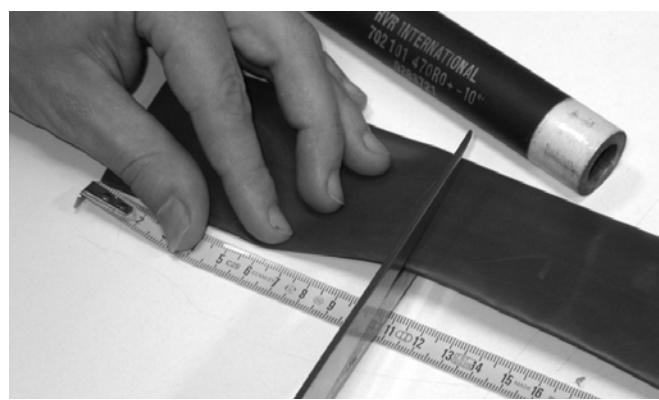

Figure 62: Cutting the heat shrink tube
7. Use the scissors or knife to cut an 11 cm section of heat shrink tube (see Figure 62).